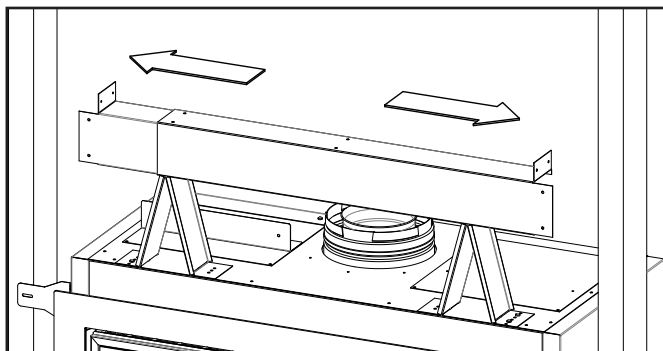

Figure 16: Steel Stud Placement
- Place the steel stud onto the top standoffs and slide outwards until both ends make contact with the framing studs (see Figure 16).